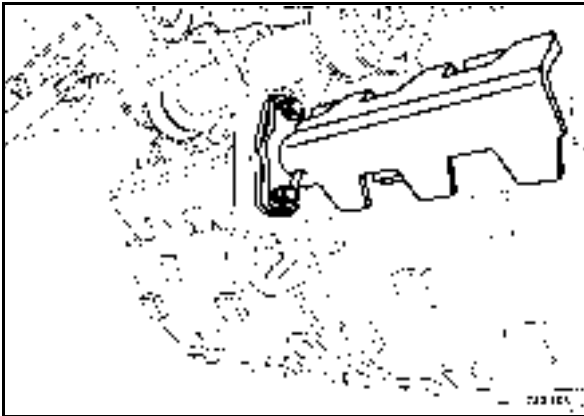

Fig. 143
- Loosen the fastening screws (Fig. 143) on both sides of the machine.